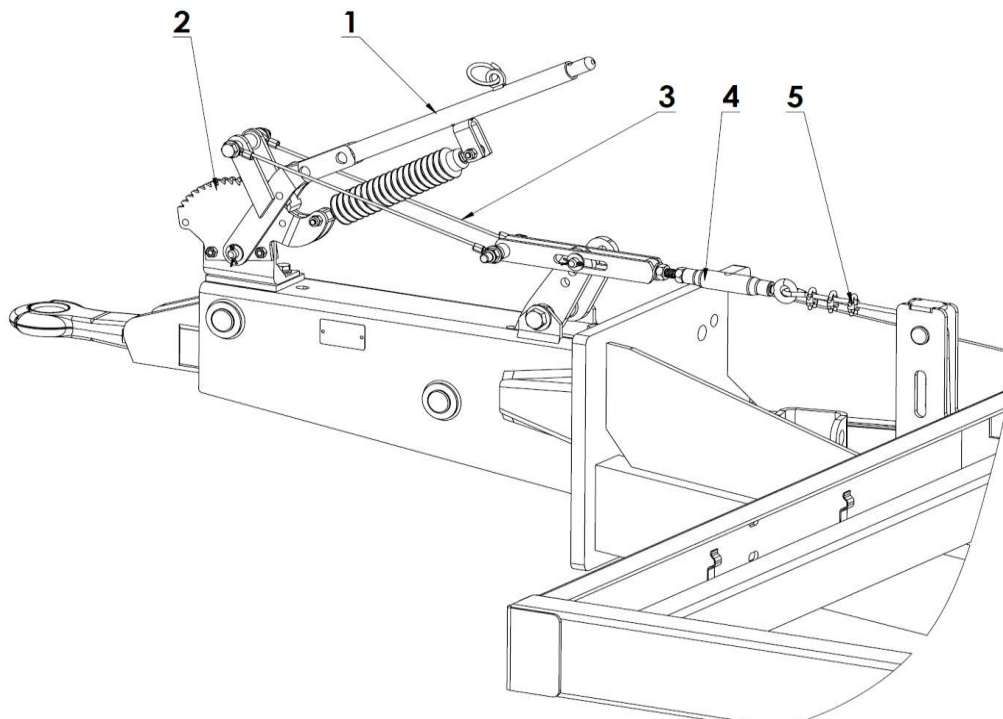

Fig. 14 Overrun brake drawbar
If the trailer is equipped with an overrun brake, the parking brake is integrated with the overrun brake (fig. 14). The parking brake is engaged by pulling the lever (item 1) towards the front of the trailer. The ratchet system (item 2) prevents the lever from spontaneously returning to the disengaged position. To release the brake, press the button found in the lever's hand-grip and move the lever towards the back of the drawbar.